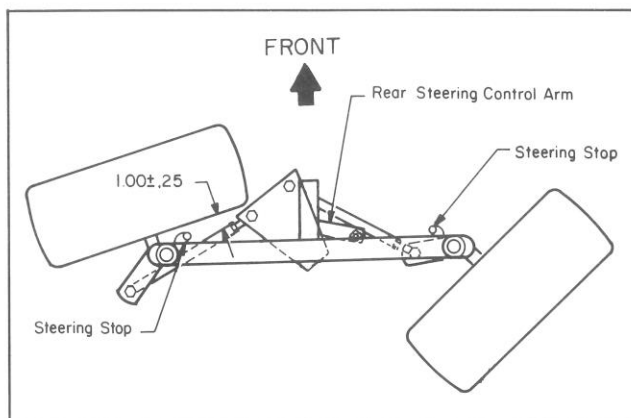

Figure 5
15. Disconnect and remove the rear steering tube ball joint from the rear steering control arm (Fig. 5).
16. Rotate the rear steering control arm until the clearance between the left rear tire and left rear tie rod is  $1'' \pm \frac{1}{4}''$  (Fig. 5).
18. Rotate the rear steering control arm until the clearance between the right rear tire and the right rear tie rod is  $1'' \pm \frac{1}{4}''$  (Fig. 5). Bend the left side steering stop as needed to achieve the specified dimension at the right wheel.
23. Adjust the length of the rear steering tube until the right rear wheel's spindle arm contacts the steering stop located on right hand side of the rear axle and the pitman arm contacts the front frame (Fig. 5).